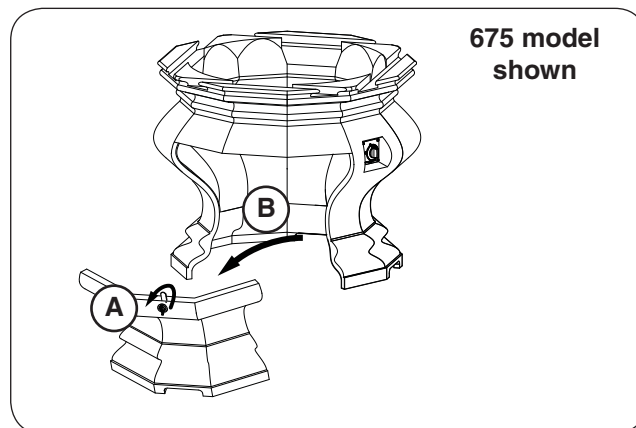

Fig. 20-1 Place base and remove door
1. **CAREFULLY** place the base in an appropriate location (see Fig. 20-1, and refer back to the LOCATION section if needed).
2. Remove the storage door by first turning the door handle counter-clockwise, then carefully pulling the door outward (see Fig. 20-1). Store in a safe location.